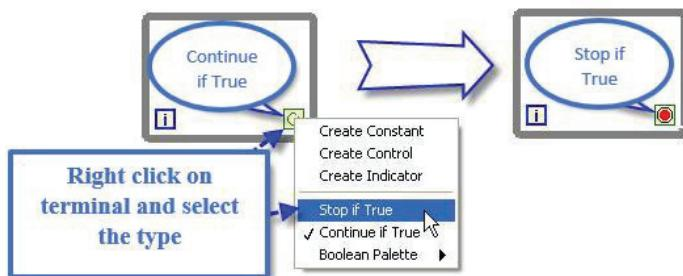

Figure 2.124: Switch Between two Terminals
- You can switch between two Terminals by **right-clicking** on terminal and choosing the other type, as shown in figure 2.124.